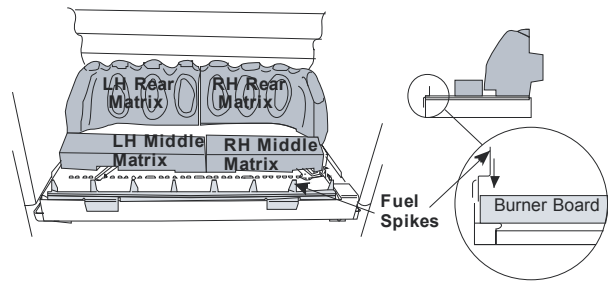

Figure 20
2. Place the **middle matrix** pieces onto the burner board so that they key into the triangular depression on the board (see **Figure 20**).
3. Insert the front fuel spike between the board and the front of the metal tray (see **Figure 20**).